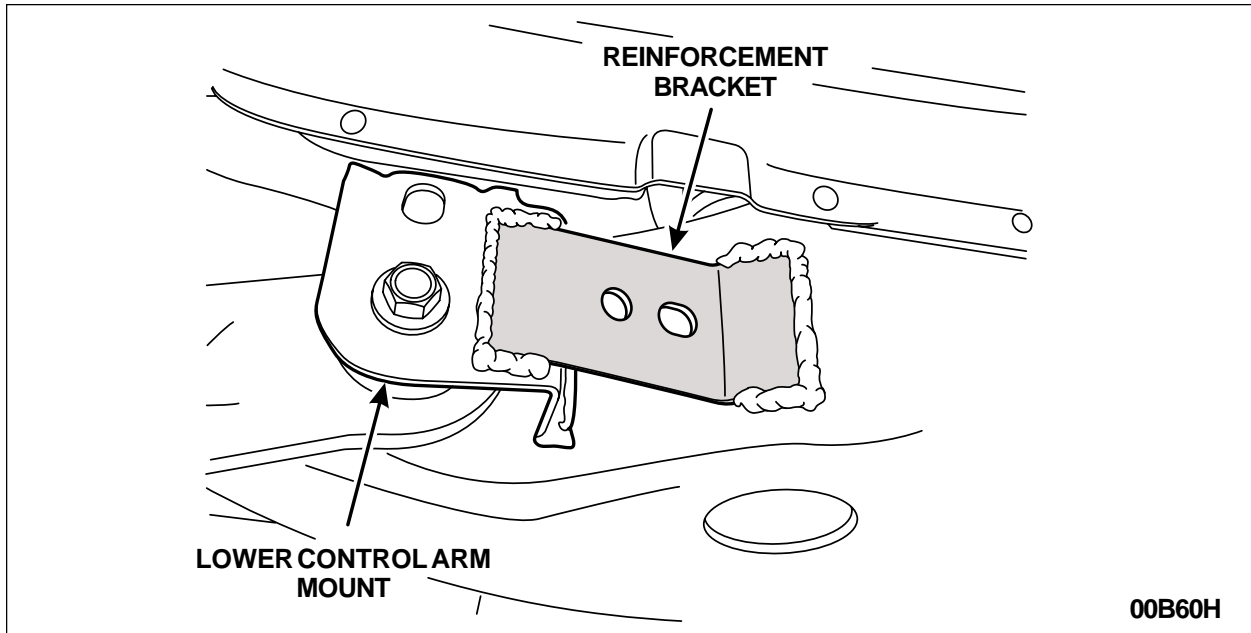

FIGURE 8
4. Prep the frame rail/lower control arm mount by removing the E-coat in the reinforcement bracket mounting area. See Figure 8.
5. Position the lower control arm mount reinforcement bracket. The bracket must fit flush to the frame rail and flush with the outer face of the lower control arm mount. To begin, clamp the bracket to the frame rail only. See Figure 8.